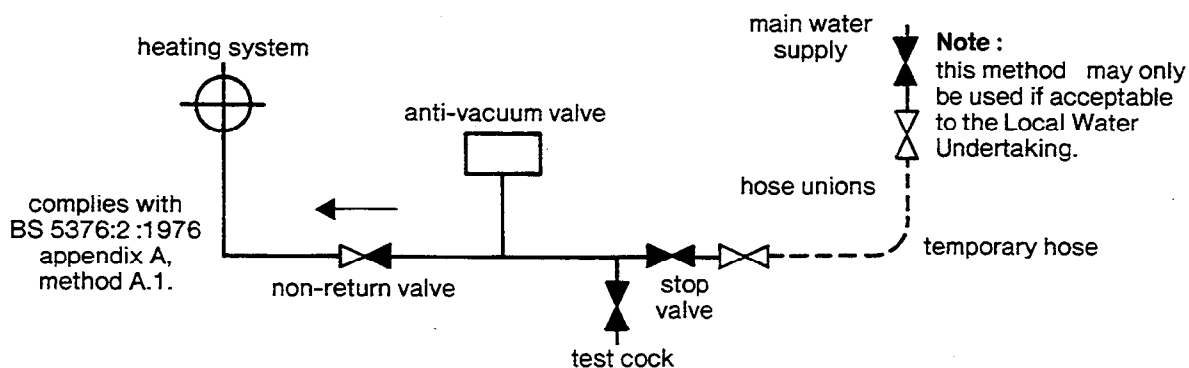

Fig. 9
1) Through a temporary hose connection from a draw off tap supplied from a service pipe under mains pressure, provided that this is acceptable to the local Water Authority. See fig. 9.